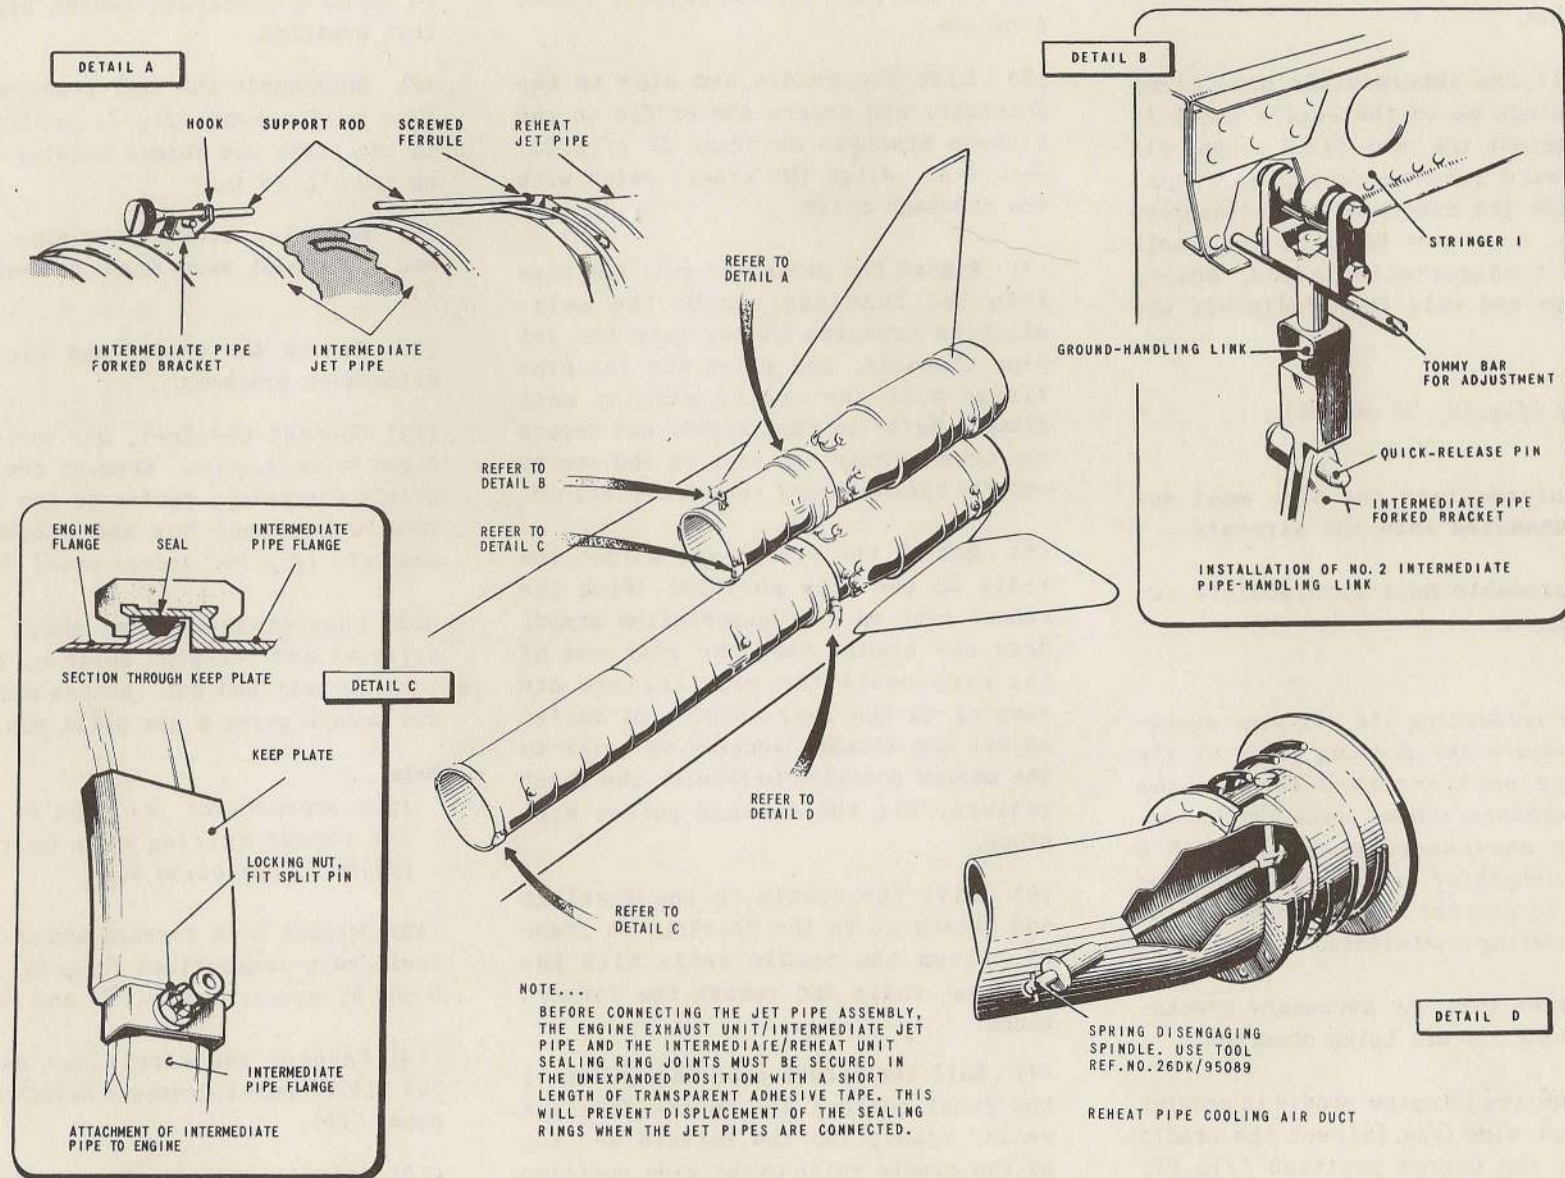

FIG. 20. JET PIPE - REMOVAL AND ASSEMBLY (1)
(16) Release the port and starboard cooling air ducts and remove the retractors (fig.20, detail D).
(16) Support the intermediate pipe by mounting the rollers of the ground handling link to the rail on stringer 1, and connecting the link to the pipe (fig.20, detail B). Access is obtained by removing the access panel in frame 53.
(17) Refer to para.39(9), (10), (12), (14) and release the intermediate jet pipe from the engine. Slide the intermediate pipe aft to engage the locking
device (fig. 20, detail A) and disengage the handling link.
(6) Connect the ground handling link to the bracket on the intermediate pipe (fig. 20, detail B), and adjust on the link to align the pipe with the engine exhaust unit.
(7) Release the locking device by lifting the forward end of the reheat jet pipe and pull the intermediate pipe forward until supported by the self-aligning trunnions in the channel sections. Align the intermediate pipe flange with the engine exhaust unit flange. Referring to para. 41 (10), (11), (12) and (13) connect the jet pipe to the engine and fit the overboard vented heat shield.
(8) Lift the reheat pipe rollers clear of the fuselage rails, using the roller key (access panels 76P and 76S).
(9) Remove the cradle, the cradle attachment brackets and the ground handling link. Fit the half-clamps at the rear trunnion mountings.